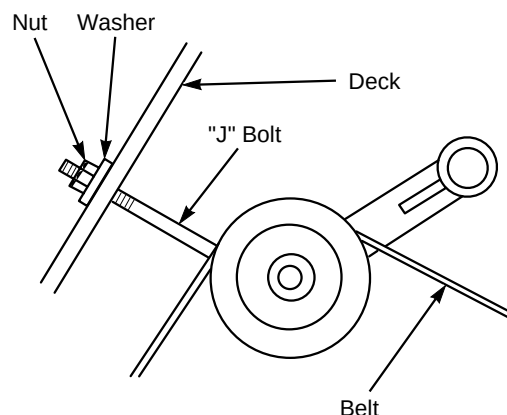

Figure 3. Cutter Deck Belt Adjustment R.H.
- Adjust the RH blade drive belt using a belt tension gauge. Adjust the belt so that the belt moves 1/2" with 10 pounds of pressure. Adjust the tension by tightening or loosening the J-bolt nut. (See Figure 3)